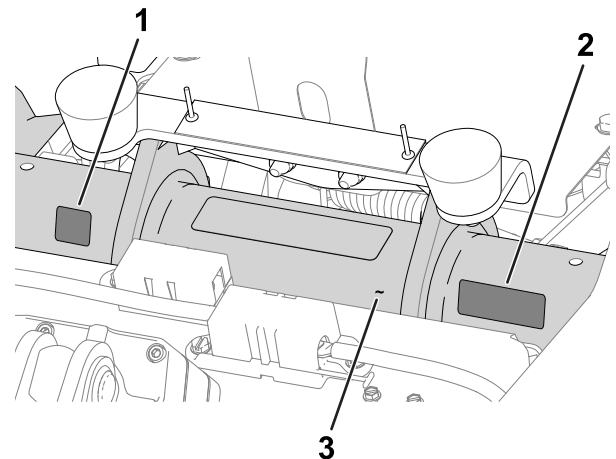

Figure 16
- **Production year decal and CE/UKCA decal:** apply the decals on the frame tube below the seat and serial plate; refer to Figure 16.